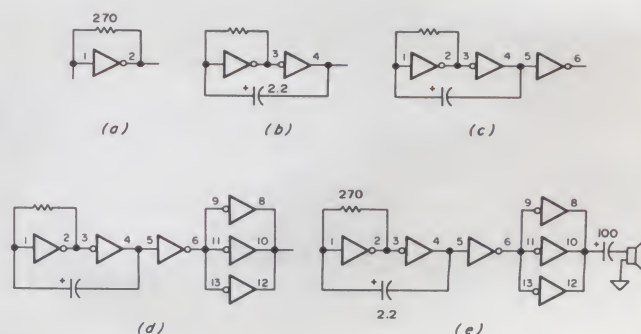

Fig. 4. Circuit theory details.
**Theory** — Refer to Fig. 4 during the discussion of how this thing works. Fig. 4a shows the resistor connected from pins 1 & 2 of the first inverter element in the package. This resistor changes this inverter from a digital circuit to an amplifier. The circuit has been made to function with resistance values between 150 Ohms and 470 Ohms, with a value of 220 or 270 Ohms proving to be about optimum. If you do not have a 270 Ohm resistor (red-violet-brown), then try what you do have: 150 Ohms (brn-grn-brn), 22 Ohms (red-red-brn), 390 Ohms (or-wh-brn), 180 Ohms (brn-gry-brn), 330 Ohms (or-or-brn), or 470 Ohms (yel-v-brn). Fig. 4b shows the second inverter section, pins 3 & 4. This section inverts, or turns upside down, whatever it finds coming in on pin 3. The inverted signal is then fed back via the capacitor to pin 1. The phase is such as to cause the combination to oscillate. We will go into phase and oscillations later in the course. An oscillator generates an alternating current signal. In this case,